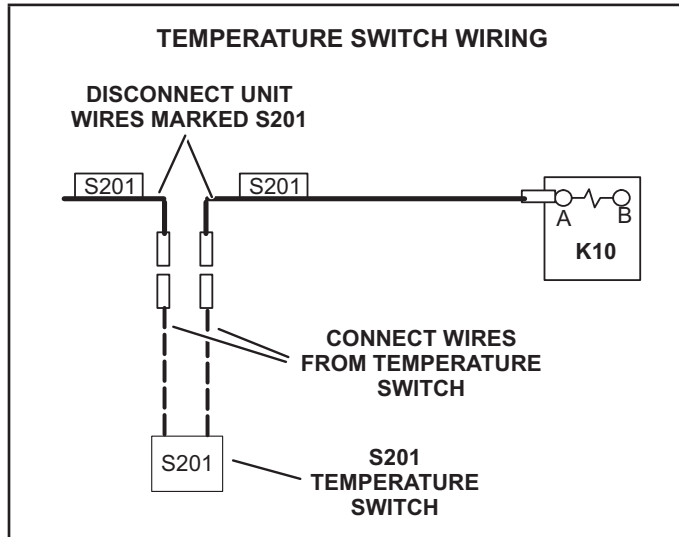

FIGURE 3
- 2 - Disconnect male and female terminals from wires marked "S201" near K10 relay. See FIGURE 3.
- 3 - Make wiring connections as shown in FIGURE 3.